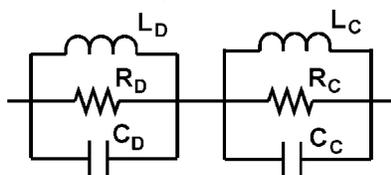
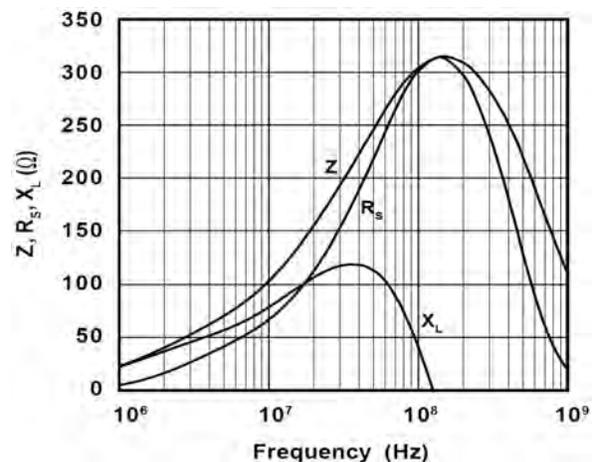
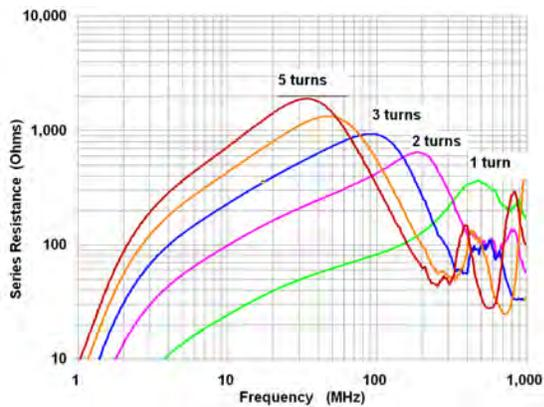
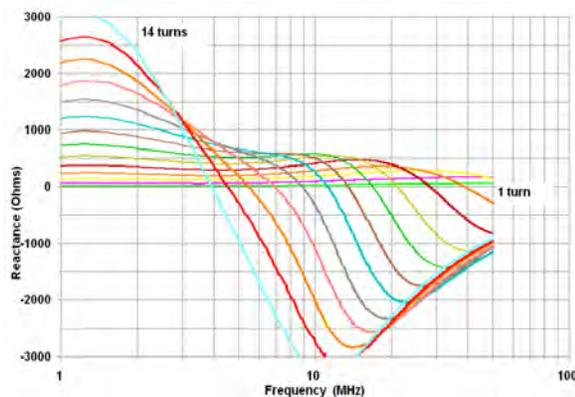

Fig 15
Fig 22 – A #31 Fair-Rite "clamp-on" ferrite, 1.5" long with an i.d. of 0.275"
Fig 23a – Equivalent series resistance of multi-turn chokes on a Fair-Rite #43 2.4" o.d. toroidal core (Measured Data)
Fig 24a – Equivalent series reactance of multi-turn chokes like those of Fig 18, a Fair-Rite #31 core. (Measured data)
To understand what’s happening, we’ll return to our first order equivalent circuit of a ferrite choke (Fig 15).  $L_C$ , and  $R_C$ , and  $C_C$  are the inductance, resistance, (including the effect of the  $\mu$  of the ferrite), and stray capacitance associated with the wire that passes through the ferrite. This resonance moves down in frequency with more turns because both  $L$  and  $C$  increase with more turns. The dimensional resonance does not move, since it depends only on the dimensions of the ferrite and its  $V_p$ .
**Suppression at VHF** Let's suppose that we have a problem with RFI on 2 meters. The most common way to provide suppression at VHF is with one or more clamp-on cores like those of Fig 8 or Fig 22. A good "rule of thumb" is that it usually takes at least 500-1,000 ohms to get far enough above the threshold to "make a dent" in RFI, and more is better. Using that guideline, three of these cores might be needed for a problem on 2 meters if there isn't already another choke in line.
For example, consider a cable wound 5 turns around a toroid to provide good suppression for the HF ham bands. Fig 23a and 23b show measured series resistance, while Figs 24a and 24b clearly show that the impedance of these chokes is capacitive above resonance, just as we would expect from Fig 15. Now, we add one or more of the clamp-ons shown in Fig 22. Between 30 and 100 MHz, the clamp-on is below resonance, so it looks like a lossy inductance. Thus, with both the VHF clamp-ons and the toroid in series on a cable, there will be some cancellation of their reactances in this range, **but their resistive components will always add** (improving the suppression).